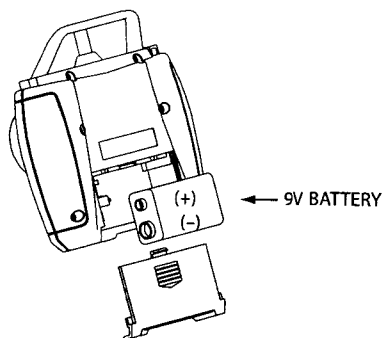

FIGURE 5
2. Insert a fresh, new 9-volt battery into battery compartment following polarity/orientation (+ / -) markings in compartment. (Figure 5)